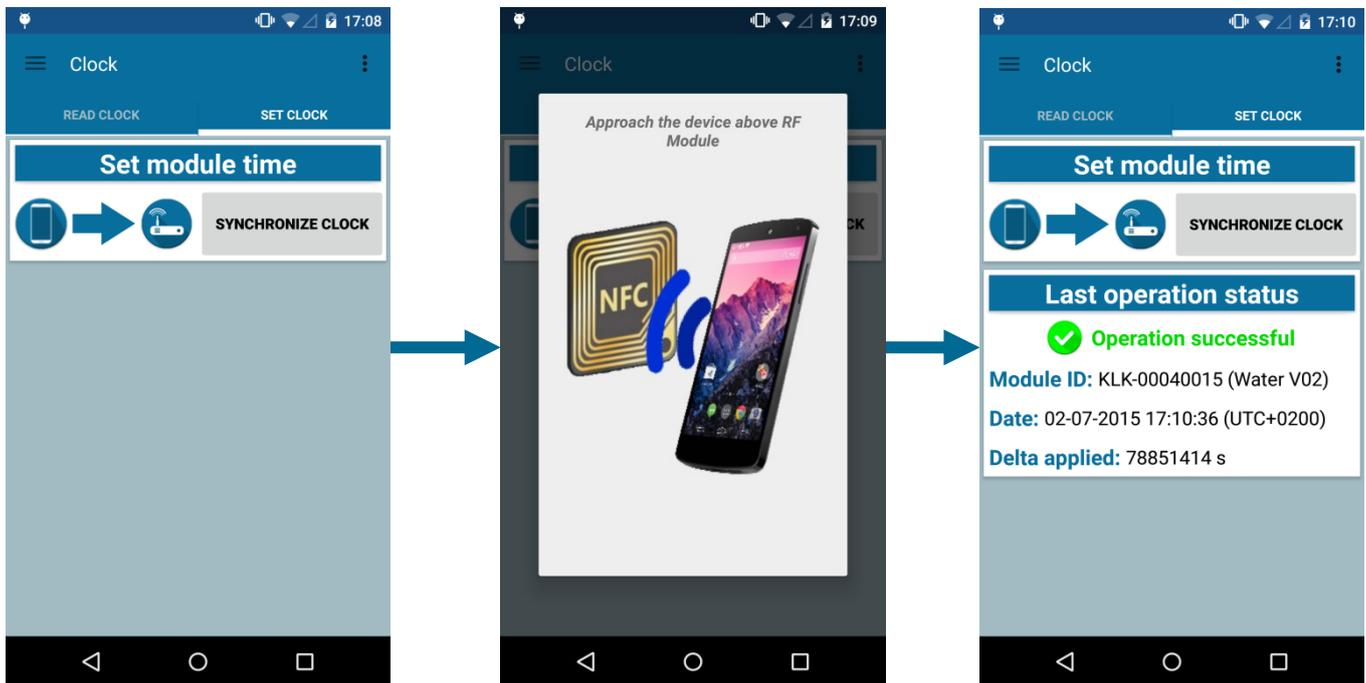

Figure 33: Set clock operation
- The status of the operation, the Wirgrid RF Module 169MHz date and the applied delta with Android device time are displayed on the screen (see Figure 33).